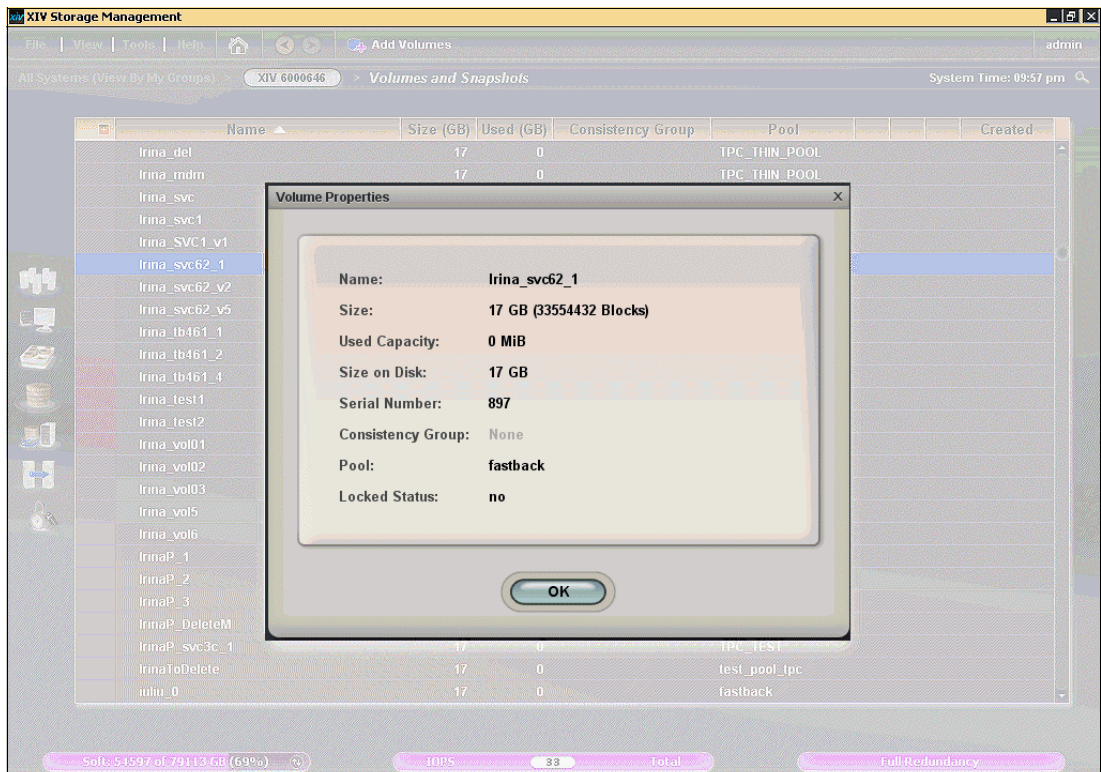

Figure 3-4 XIV Volume Properties dialog box
1. To identify the volume serial number, right-click a volume and select **Properties**. Figure 3-4 shows the Volume Properties dialog box that opens.